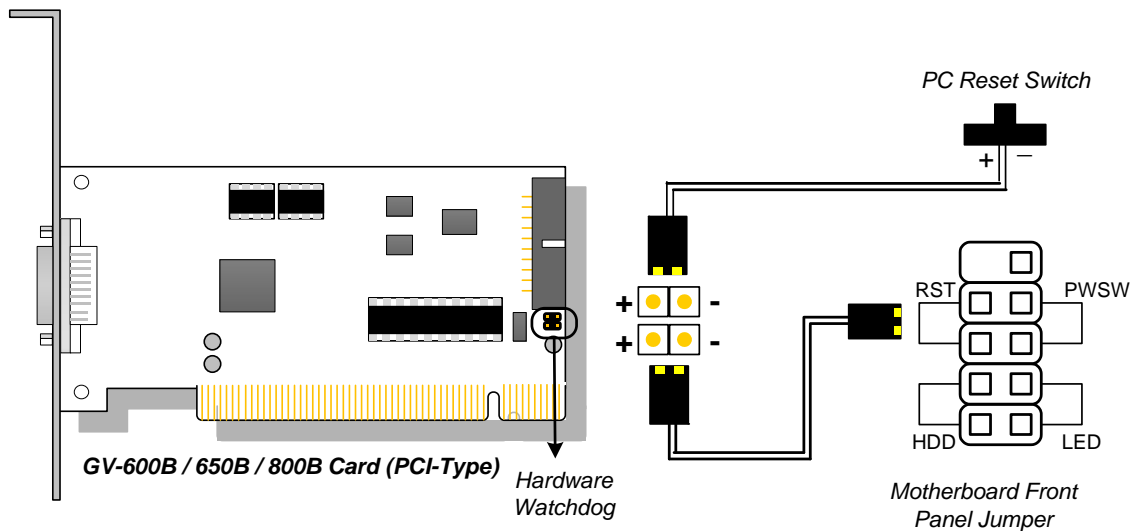

Figure 1-35
- Connect the supplied Hardware Watchdog Jump Wire (Figure 1-35).
- **Hardware Watchdog Connection:** Connect the supplied Hardware Watchdog Jump Wire to the Master Card only (Figure 1-35).